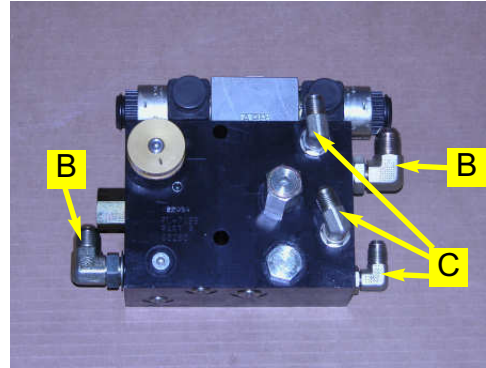

Figure 1. Prepared Automated Steering Block.
- b. Remove the plastic plugs and install the small elbow adapters (C) in the T, A, and B ports and the larger elbow adapter (B) in the EF and P ports. (Figure 1.)